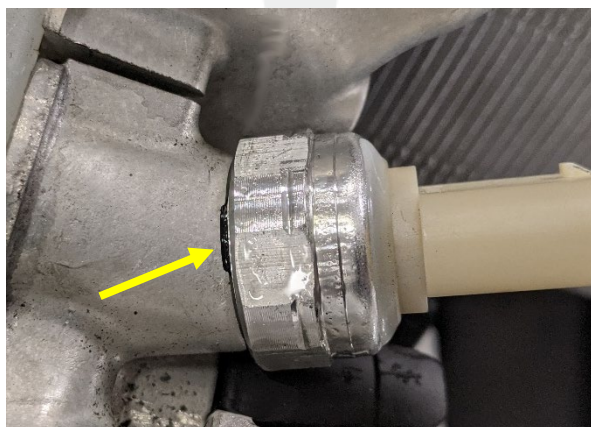

Figure 12 – O-ring pinched
- c. If the low pressure P/T sensor O-ring appears to pinch (Figure 12), or no longer slides into the chamfer, stop and back off the P/T sensor until the O-ring no longer appears to be pinched.